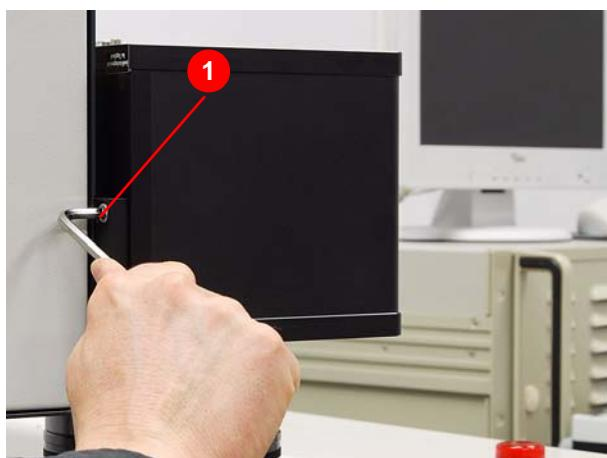

Figure 7.15 Dismantling the galvo head
2. Loosen the two fastening screws (1) (Figure 7.15).